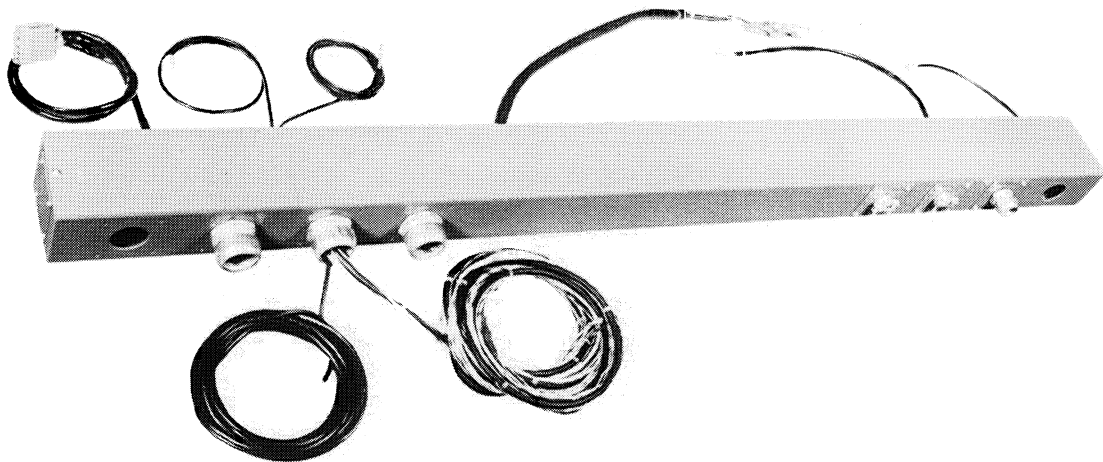

Figure 1-4. 534A-1 Cable Harness and Wiring Duct
1.5.3 534A-1 CABLE HARNESS AND WIRING DUCT (figure 1-4).